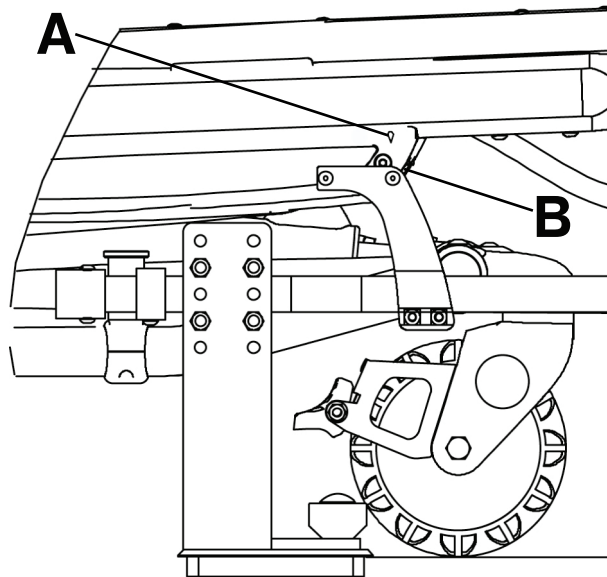

Figure 5 – Adjust shut-off bracket
4. Adjust the shut-off bracket along the rail clamp until the diamond (A) on the sensor housing is lined up with the pop rivet head (B) (Figure 5).
**Note** - Align the diamond (A) on the sensor housing cover with the pop rivet head (B) on the in-ambulance shut-off (Figure 5).